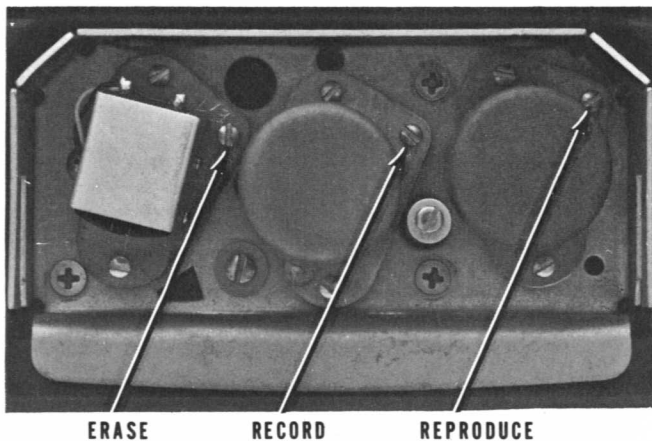

Fig. 5-3. Head Azimuth Adjustments
Step 7: The second tone on the tape is for use in setting the reproduce head azimuth. As this tone is reproduced turn the azimuth adjustment screw on the reproduce head (see Fig. 5-3) to achieve a maximum indication on the vu
Step 7: While thus simultaneously recording and reproducing, adjust the record head azimuth (see Fig. 5-3) to achieve a maximum indication on the vtm. If this is two-channel equipment, adjust to the optimum setting for the two heads in the record stack.